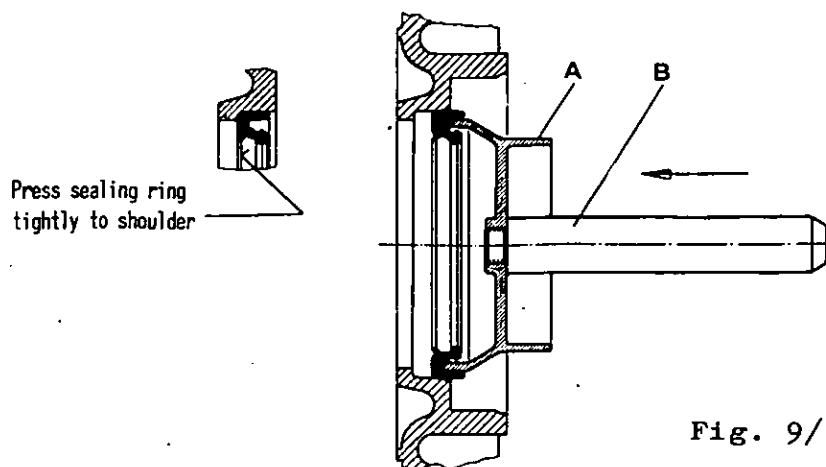

Fig. 9/3
- 1) Moisten sealing rings. Press sealing ring 4 into the clutch casing by applying the tool shown in fig. 9/3 and then lightly hitting against bolt B. In order to be able to use the tool for pressing sealing ring 17 into cover 18, screw the bolt B into the other side of the disc. Then proceed in the same way as for sealing ring 4. The tool consisting of disc (part no. 3158-9939-000) and bolt (part no. 3170-9877-010) is supplied on special order only.